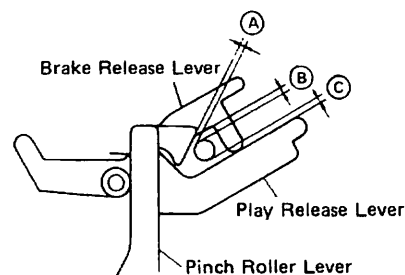

Figure 19-2
Place the set in play mode, and see that the pinch roller lever moves to create the gaps (A), (B) and (C) as shown in Fig. 19-2.